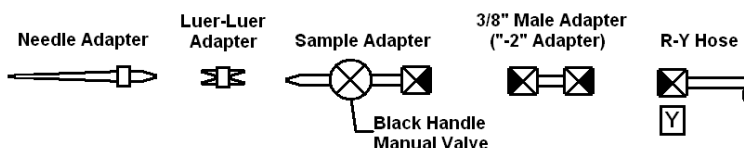

Figure 10-5.- CWC-I Fill Hose purge hardware.
2. Assemble Purge hardware as shown in fig 10-5
1. De-mate all connections shown in fig 10-5